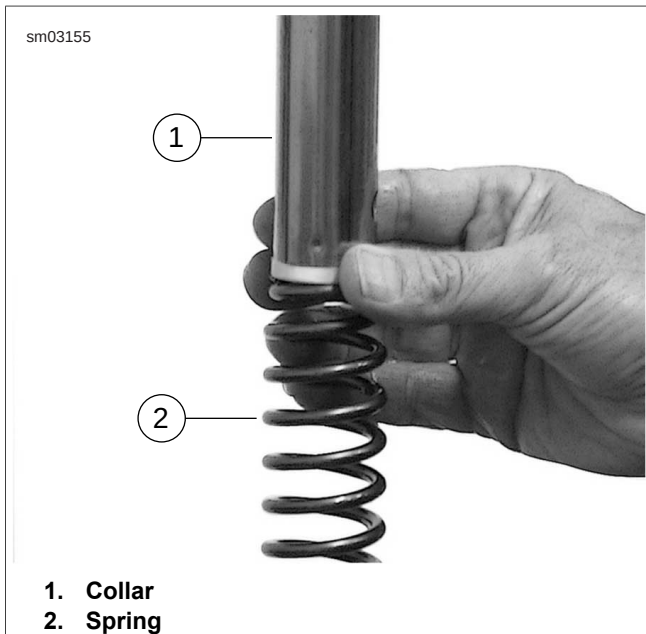

Figure 2-107. Collar and Spring Assembly
15. See Figure 2-107. Fully extend fork and install spring in fork tube (with tightly wound end at bottom), proceed to install washer and collar.